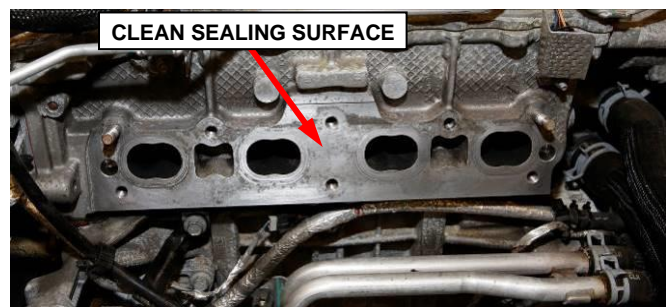

Figure 20 – Clean Sealing Surface
31. Clean the exhaust manifold gasket sealing area of the engine cylinder head (Figure 20).